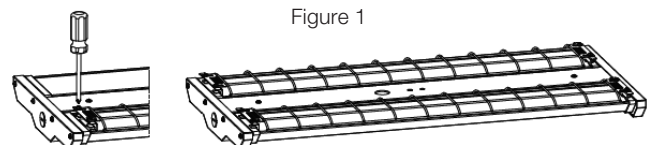

Figure 1
**STEP 1:** Snap the wire guards into the plug of the light-emitting modules and tighten them with screws (Figure 1).